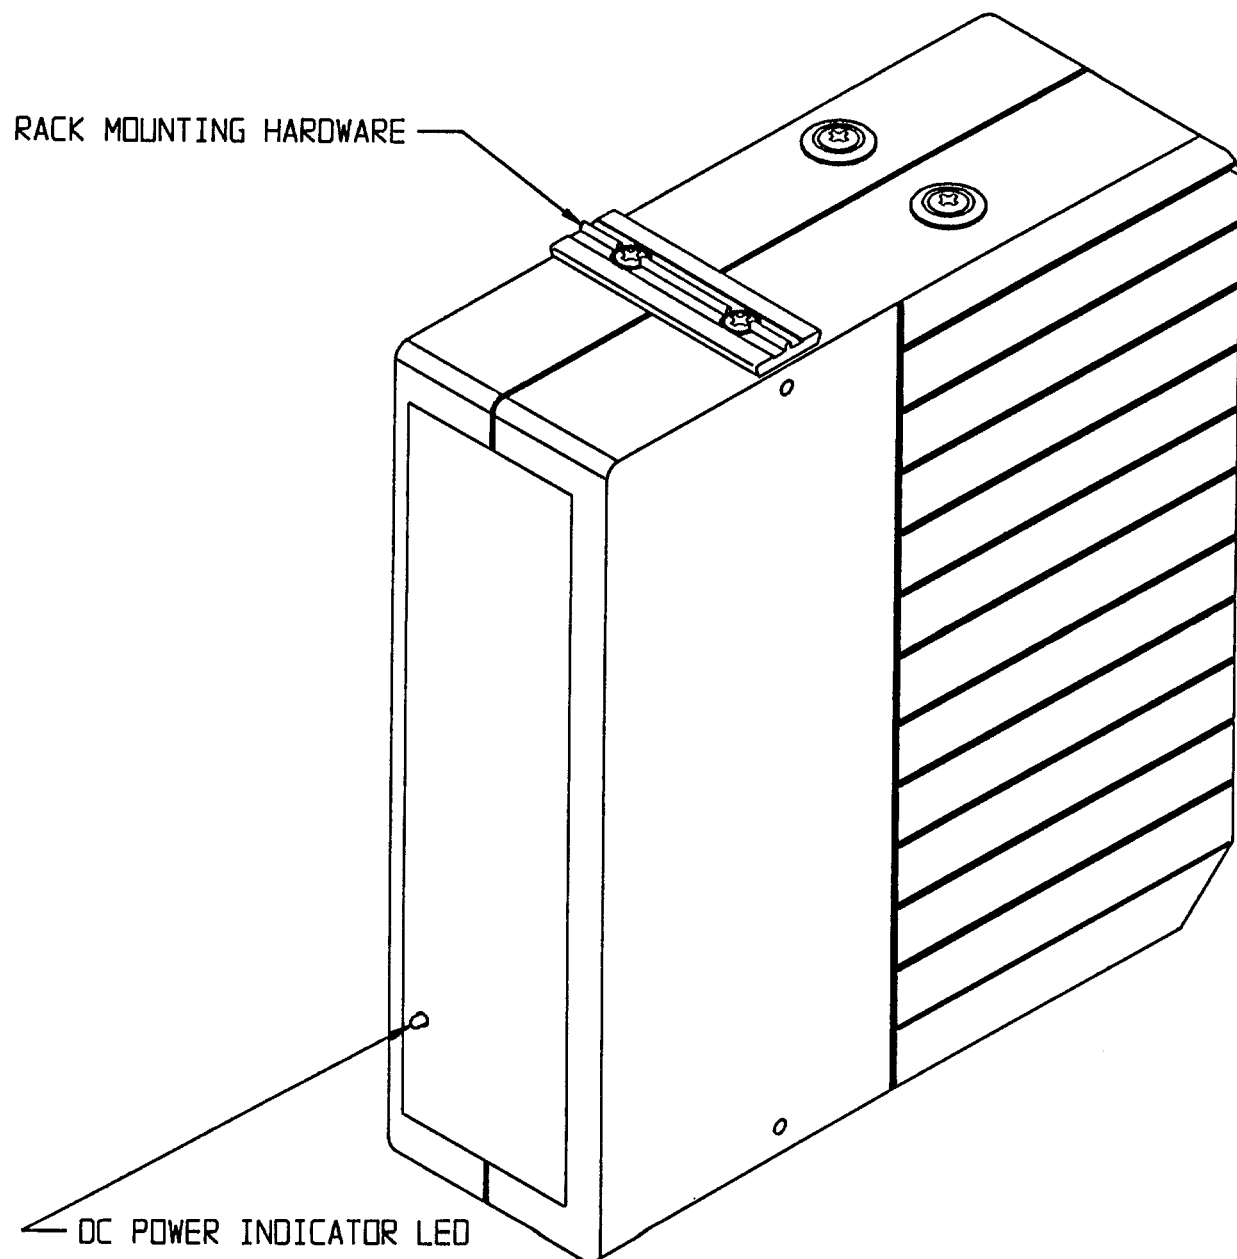

FIGURE 1
1.0 Mounting (refer to figure 1)
2.0 Front Panel (refer to figure 1)